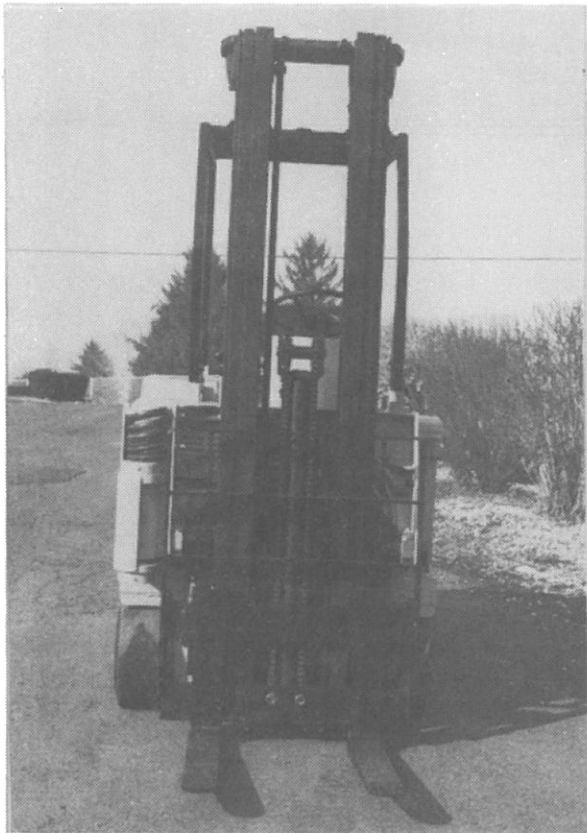

Figure 1-1
1. When the mast is in the forward position, it operates as a conventional counterbalanced front loading truck. (Figure 1-1)